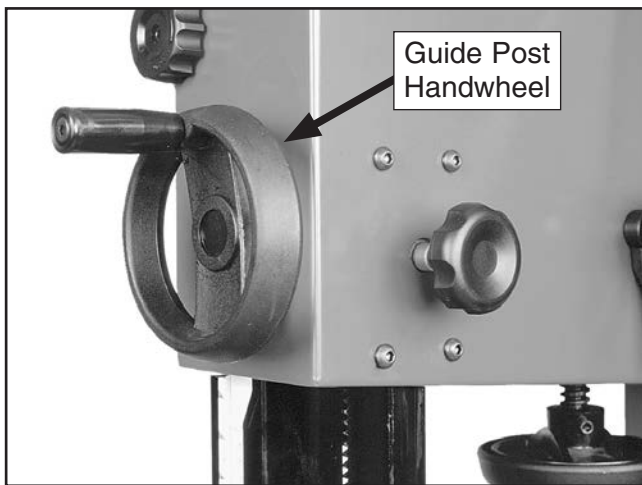

Figure 20. Guide post handwheel installed.
1. Secure guide post handwheel on handwheel shaft flat with set screw (see **Figure 20**).